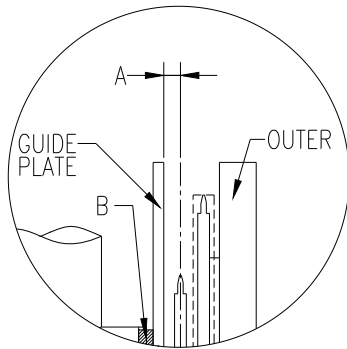
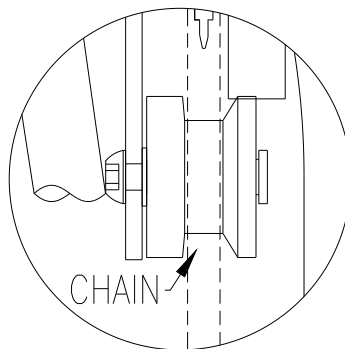

Figure 2.
Figure 3.
11. When everything is installed correctly, **SPACING A**(Figure 2.) should be between **4mm & 6mm**, and the groove of the **ROLLER** should be inline with the middle chainring as show in **FIGURE 3**. The **CHAIN** should ride in the groove of the **ROLLER** when it is on the middle chainring and when you shift to the granny chainring the chain should shift up onto the tall step of the **ROLLER**.